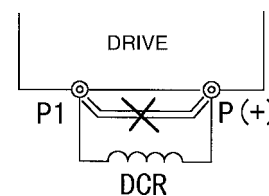
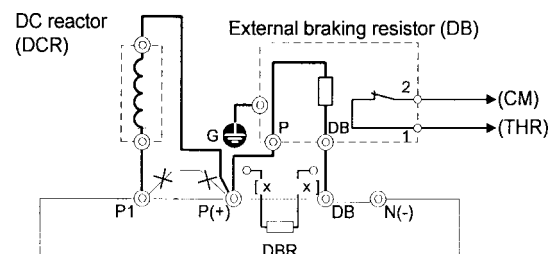

Fig. 2-3-3
Fig. 2-3-4 Connection (10 Hp or less)
2. When you need to connect source type logic, refer to Basic Connection Diagram Fig. 2-3-3 and Fig. 2-3-4 and Technical Information Manual. (Sink Logic is commonly used in the USA and Source Logic is commonly used in Europe.)
**(5) Others**